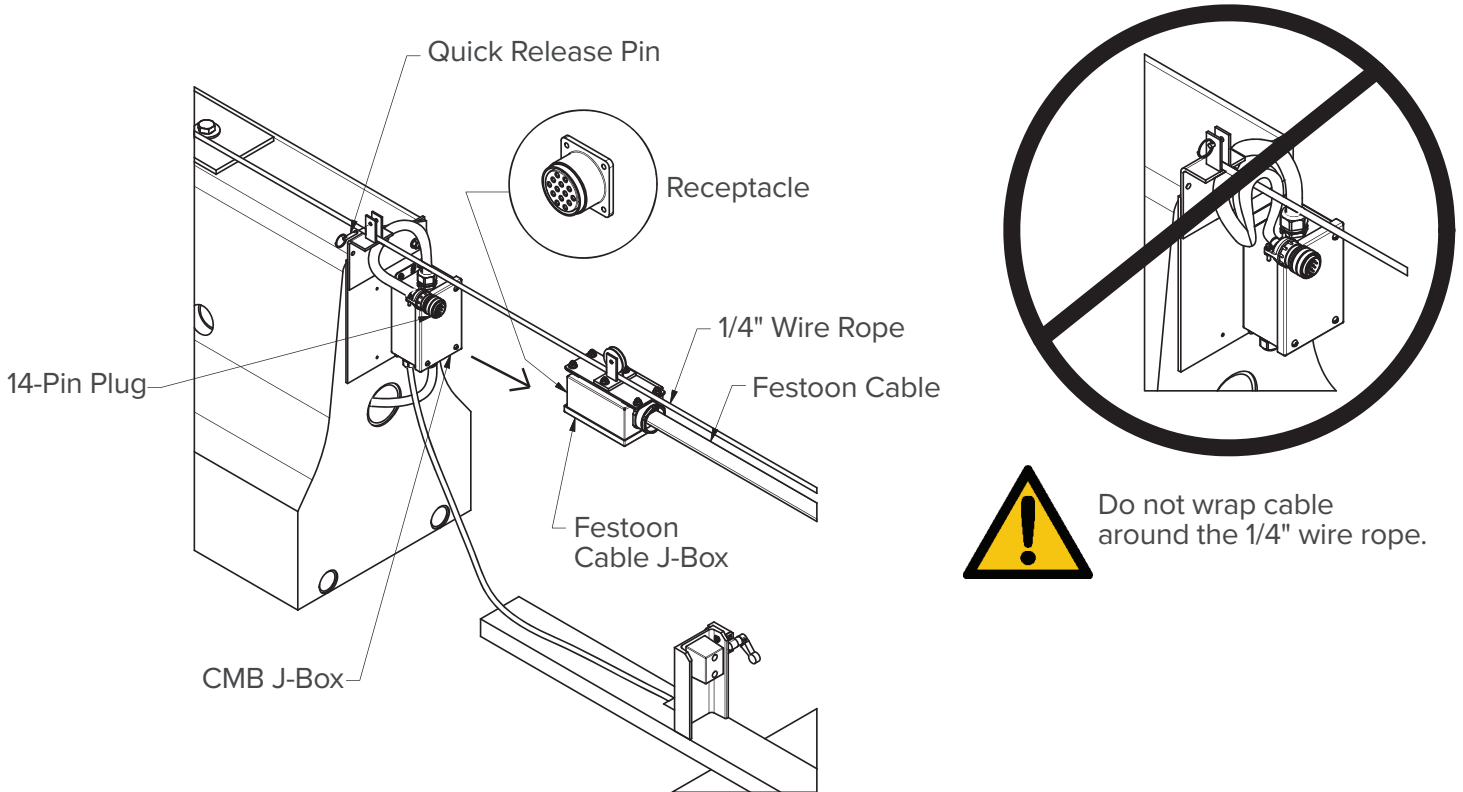

Figure 22
4. **Connect the CMB J-box output to the Festoon Cable J-box on Hook Side Gate Half** (Figure 22). Locate and attach the CMB J-box cable with the 14-pin plug and corresponding receptacle on the Festoon Cable junction box. Ensure clamp is fully tightened. Position the 1/4" diameter wire rope in the retaining tab on the bracket and hold it in position with the Quick Release Pin provided.